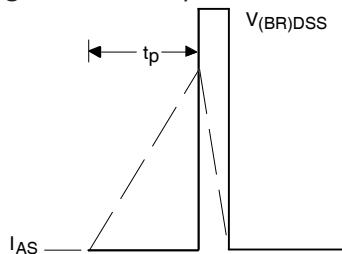

**Fig 11.** Maximum Effective Transient Thermal Impedance, Junction-to-Case
$Z_{thJC}(D, t_{av})$  = Transient thermal resistance, see figure 11)
- ① Repetitive rating; pulse width limited by max. junction temperature. (See fig. 11).
- ② Limited by  $T_{Jmax}$ , starting  $T_J = 25^\circ C$ ,  $L = 0.21mH$   $R_G = 25\Omega$ ,  $I_{AS} = 30A$ ,  $V_{GS} = 10V$ . Part not recommended for use above this value.
- ③ Pulse width  $\leq 1.0ms$ ; duty cycle  $\leq 2\%$ .
- ④  $C_{oss\ eff.}$  is a fixed capacitance that gives the same charging time as  $C_{oss}$  while  $V_{DS}$  is rising from 0 to 80%  $V_{DSS}$ .